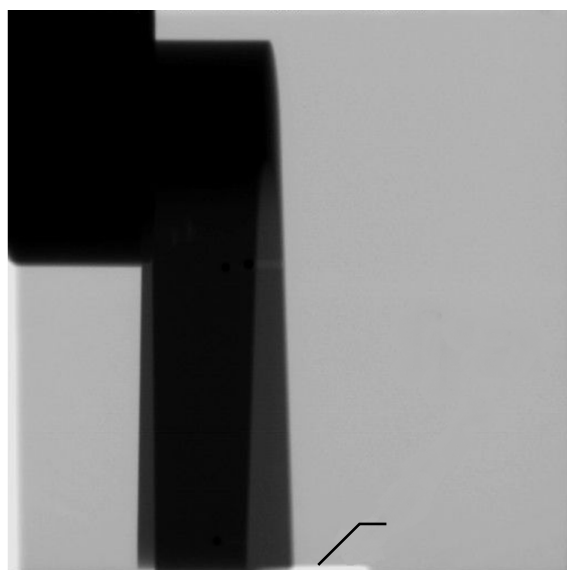

Figure 9-17b
- 14.** Verify that the Soft Tissue Filter is not in the X-ray field (3 - Figure 9-17b), if it is the case, adjust the SFT offset (see paragraph 9-39).